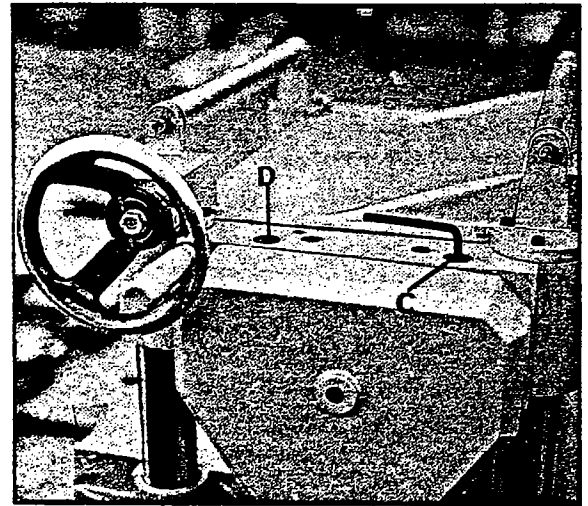

Fig. 25
To adjust the spring tension of the infeed roll, turn screw (C) Fig. 25, and also the screw on the opposite end of the roll.
To adjust spring tension of the outfeed roll, turn screw (D) Fig. 25, and also the screw on the opposite end of the roll.